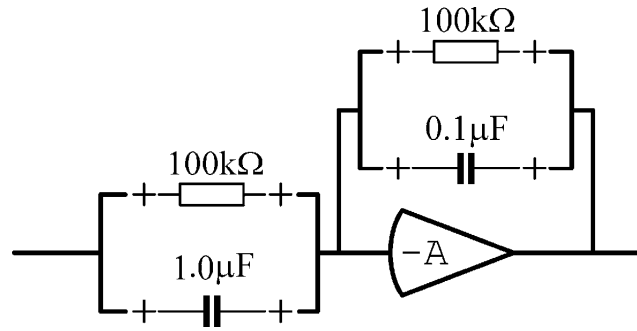

Figure 4
Physically, the transfer function $H_1(s)$ is implemented by means of an op-amp compensator circuit: see figure 4.
- Place the compensator components across terminals E and C as shown in figure 4.